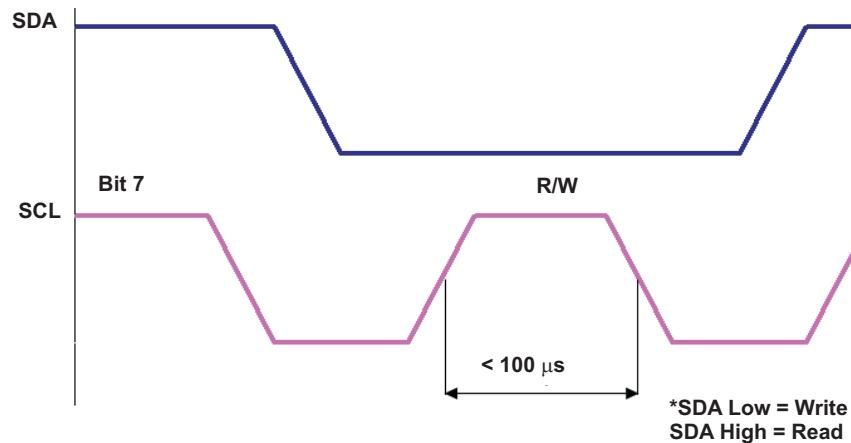

Figure 7. Read/Write Bit Requirements
- Read/write bit of slave address command (Figure 7): SCL must fall within 100 µs of SCL rising.